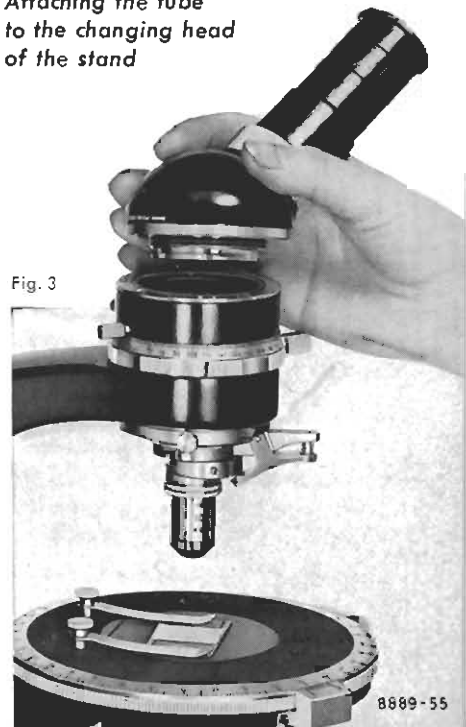

Fig. 3
3. The tube, of either monocular or binocular type, is engaged with the bayonet mount (3) of the stand and secured by a quarter turn anticlockwise (see fig. 3). The tube can also be attached so that the eyepiece points to the back of the stand, a suitable position for observations in incident light. When attaching the tube see that the red positioning dots are opposite each other.
4. The lamp unit (14) with its 6 volt, 15 watt lamp (15) is fitted into the foot of the stand from the rear. To change the lamp, the holder (16) can be easily removed after first loosening the locking screw (17). Insert the filament lamp (15) firmly in the socket and secure by turning clockwise as far as possible. The lamp holder (16) is then replaced in the foot of the microscope with the chromed locking screw (17) pointing upwards. Tighten up this screw again. The lamp should be checked for correct centring each time a change is made (see page 11). The 6 volt, 15 watt lamp can stand a maximum load of $2\frac{1}{2}$ amps and gives an intense light of very suitable spectral composition. It should not be connected unless the transformer (for A. C. supplies) or resistance (for D. C. and A. C.) designed for this lighting unit is used. First compare the data on the mains meter and the rating plate of the transformer or resistance to make sure that the type and voltage of the electricity supply agree.